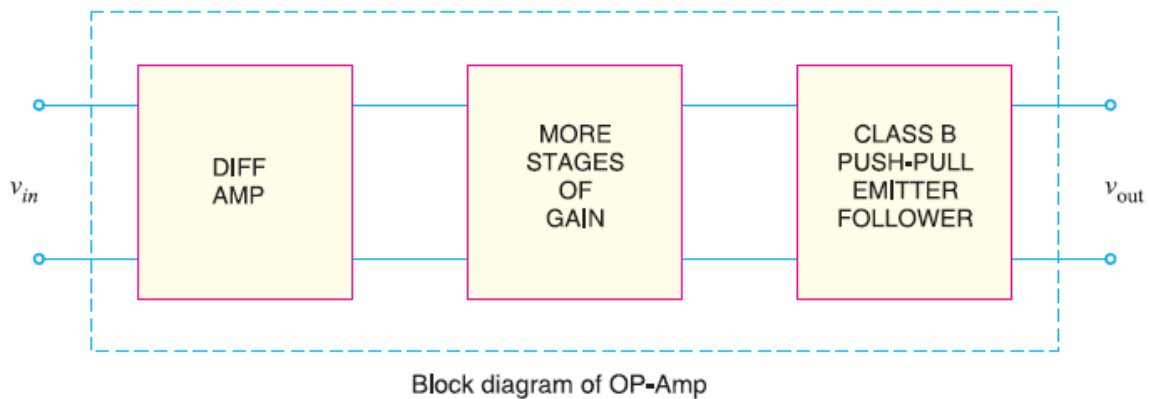

Fig. 1
Fig. 1 shows the block diagram of an operational amplifier. It is important to note that Op-Amp is a multistage amplifier. The three stages are differential amplifier input stage followed by a high-gain CE amplifier and finally the output stage. The key electronic circuit in an Op-Amp is the differential amplifier. A differential amplifier (DA) can accept two input signals and amplifies the difference between these two input signals.